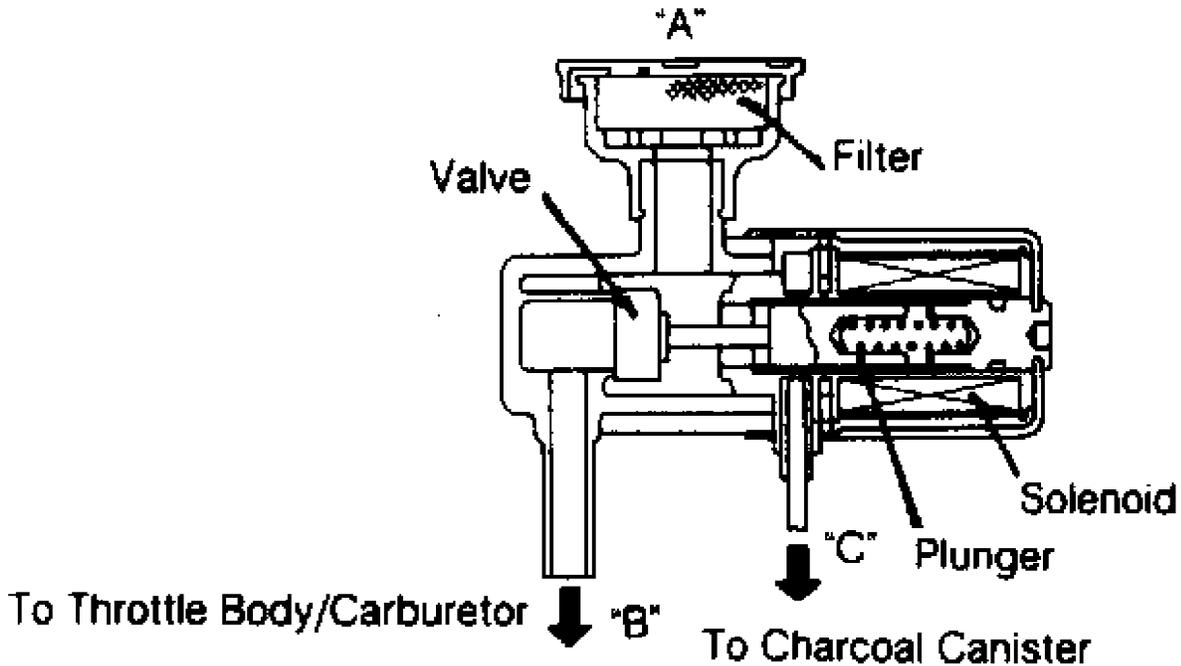

Fig. 16: Testing Bowl Vent Or Purge Control Solenoid Valve
2) Using an ohmmeter, ensure windings are not grounded. Apply battery voltage to valve terminals. Ensure passage opens and closes as voltage is applied and removed. See Fig. 16.